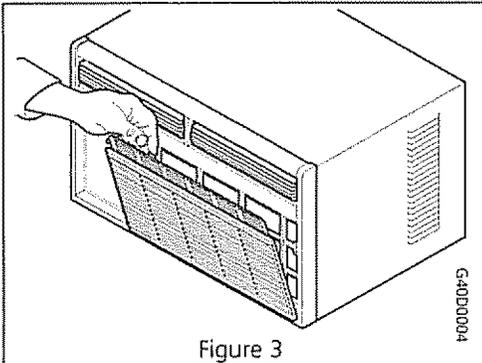

Figure 3
Installing the Vent Control (on some models) FIG. 3
The vent control handle is included in the decorative front kit. The handle must be installed before the decorative front is attached. See FIG. 3.
- When the filter or filter tab is visible on front of unit, grasp the filter located behind the front panel and pull. Or, gently pull the top of the front panel toward you, pivoting it away from the cabinet. Pull the filter up and out by grasping the tabs on the filter frame (Figure 3)